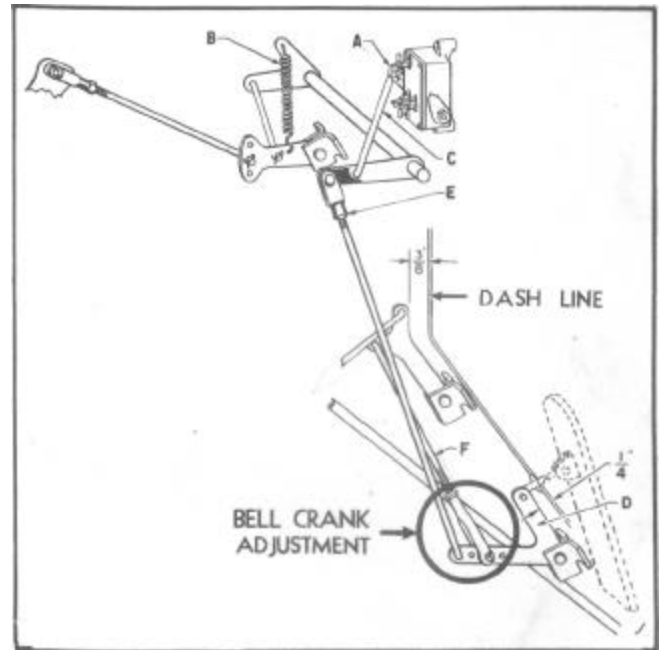

Figure 15--Linkage Adjustments
All automatic clutch control and throttle linkage should work freely and without any binding. The dash accelerator switch arm (A), Fig. 15, must rest securely against its stop on the side of the switch by the action of the throttle return spring (B) acting through the dash accelerator switch operating rod (C). Set the accelerator pedal bell crank arm (D) to stop within 1/4" of the toe board by adjusting the throttle rod clevis (E).